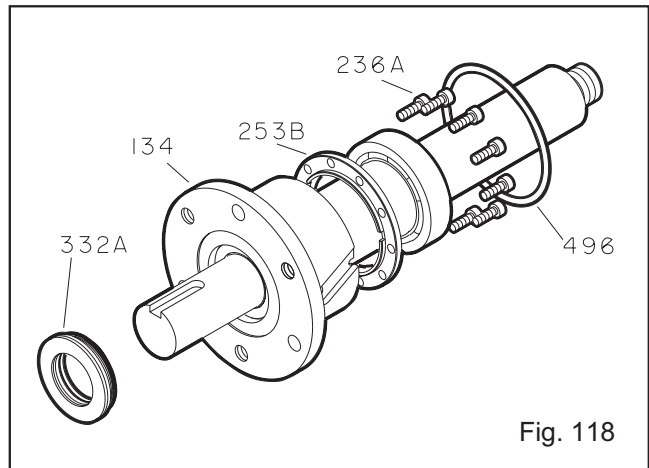

Fig. 118
11. Install clamp ring bolts (236A). Check shaft for free turning. Refer to Table 9 for bolt torque values (Fig. 118).